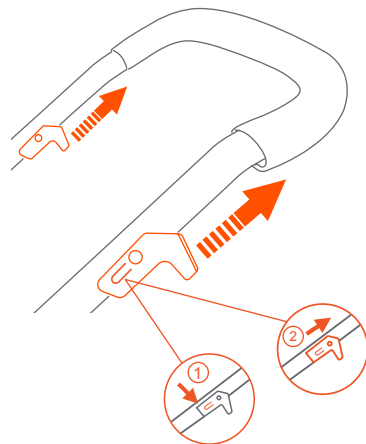

Fig. 8a
- 8) • Before folding the stroller, push the lower buttons on each side of the seat to disengage from the stroller frame (Fig. 8a).